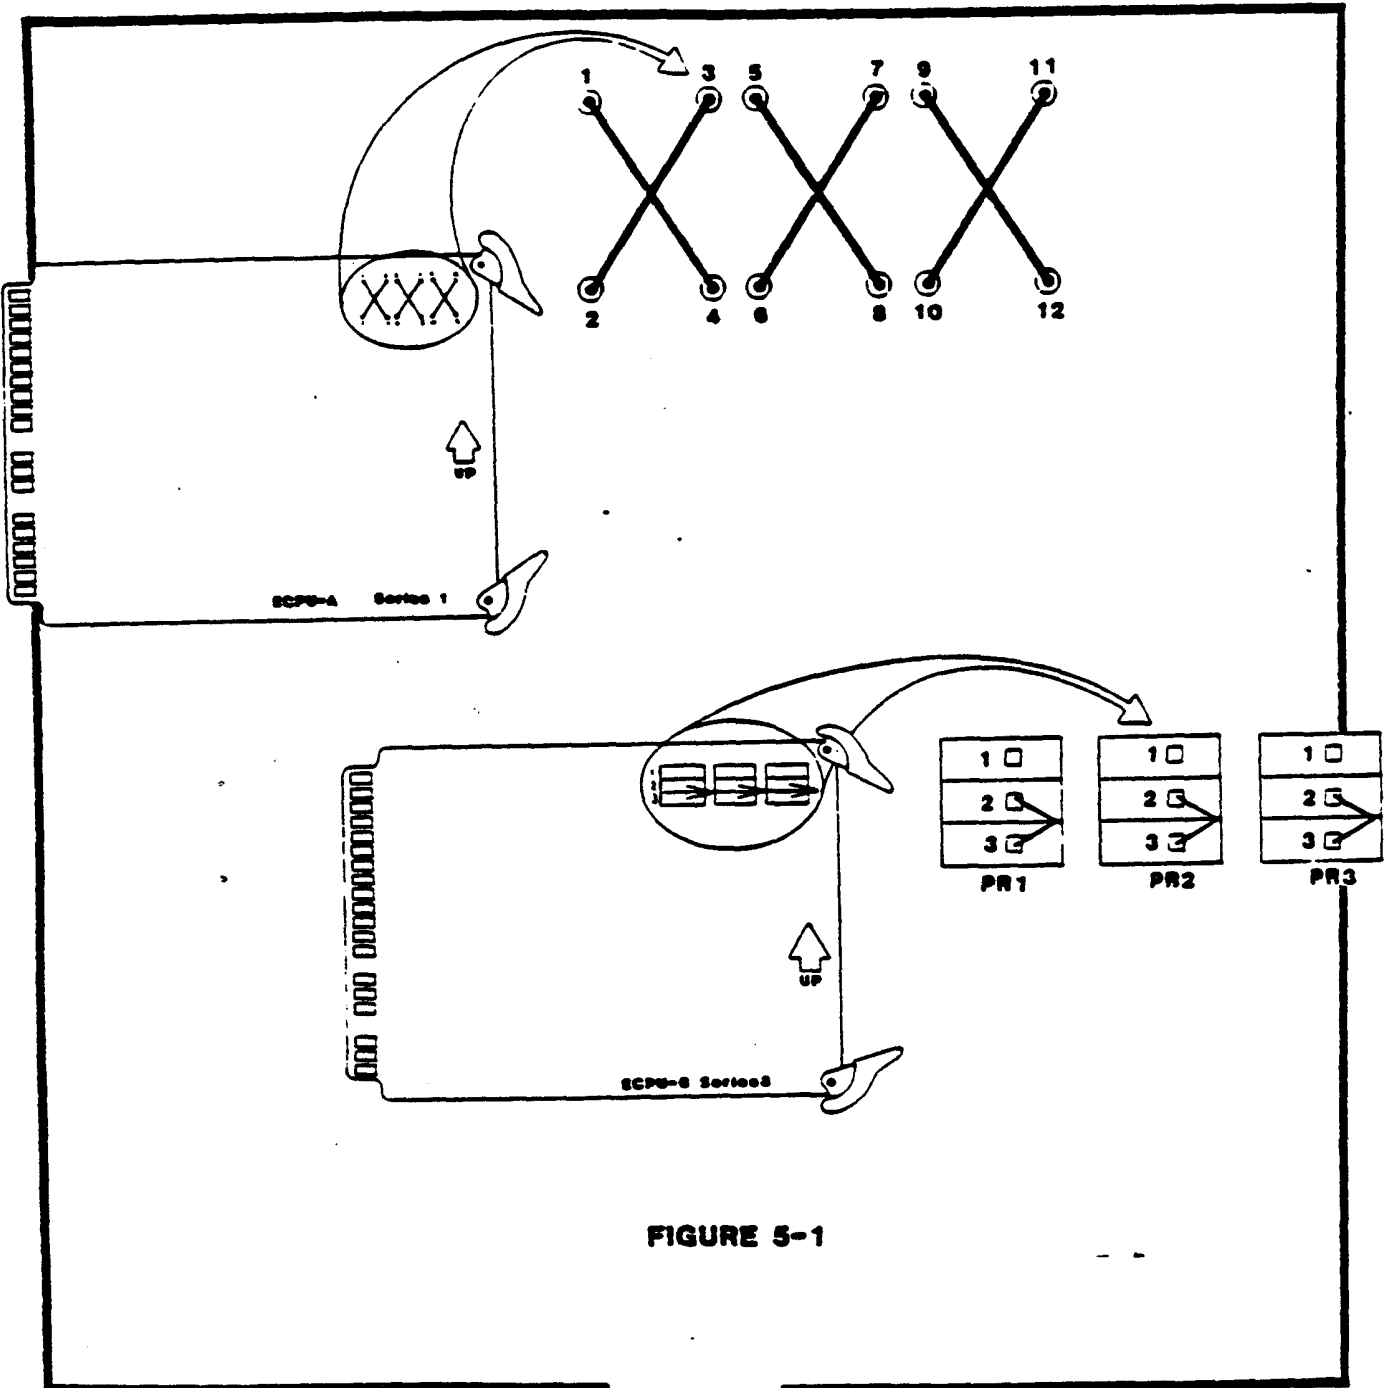

FIGURE 5-1
2.03 Remove the ECPU-A/B PCB and strap as shown in Figure 5-1. Reinstall the ECPU-A/B. A soldering iron may be required to change the strapping wires.